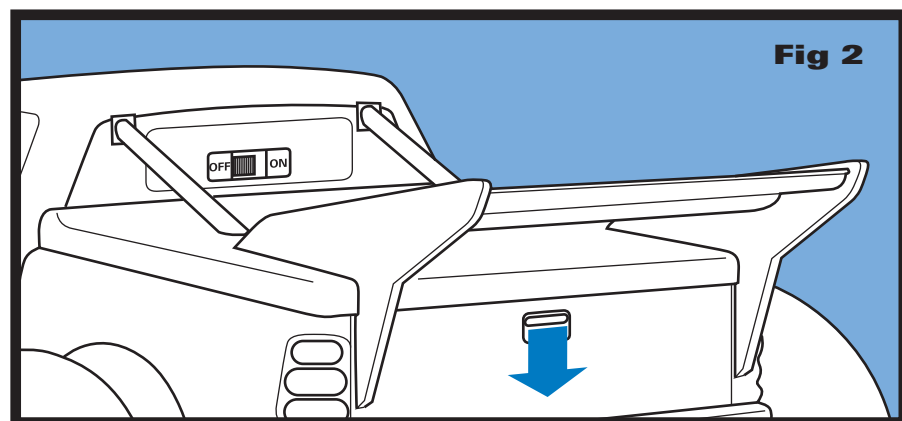

Fig 2
1. Push BATTERY LATCH on the back of the vehicle downward to open and remove BATTERY LID. (Fig. 2 & 3)